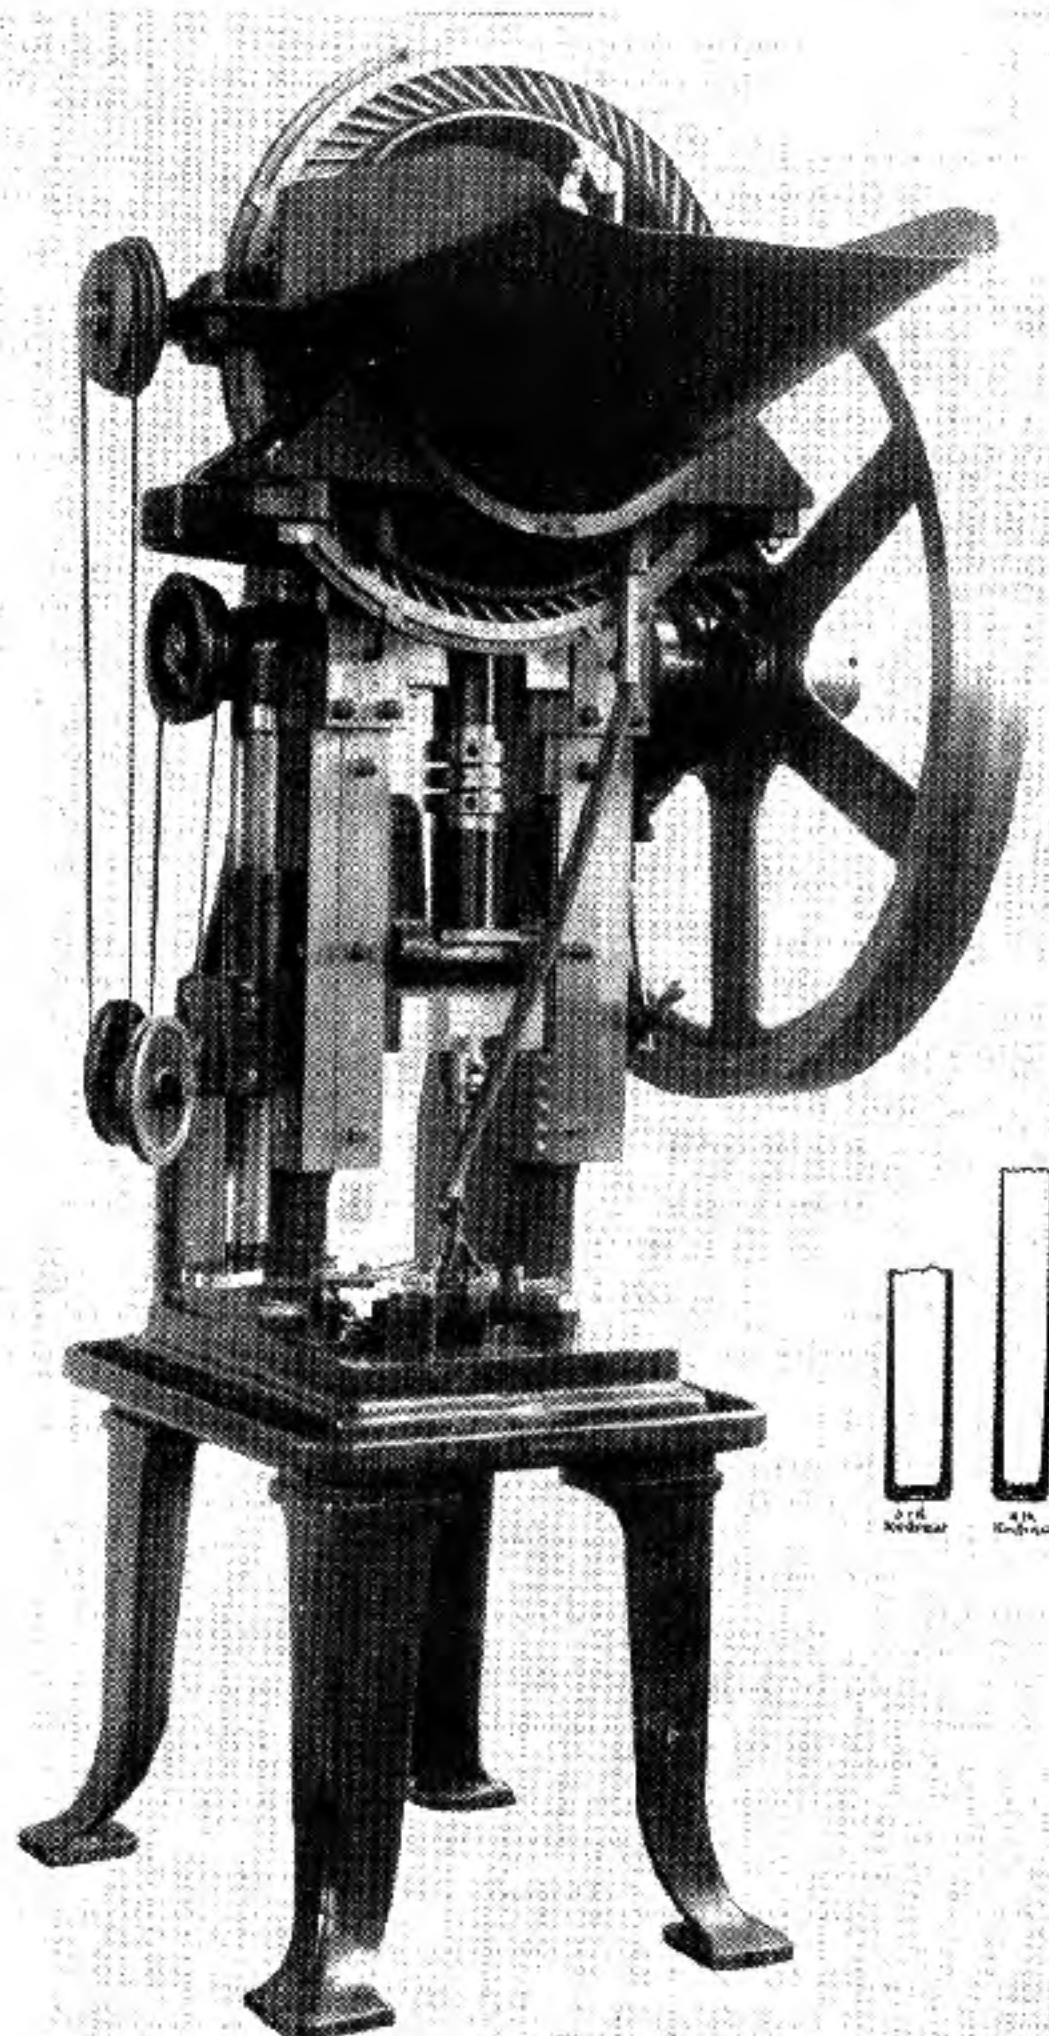

Fig. 158
**Fourth Draw** — The fourth draw operation follows. Annealing takes place before the cases are fed to the machines, and as this draw has a noticeable effect on the length of case it is realized that the edges of the walls become rather uneven and ragged. The fifth draw is arranged to make the cases longer than required. After the fourth draw operation the cases are not annealed but are fed to the fifth draw press after they pass through the fourth draw dies. Figure 158 illustrates the type of press used.